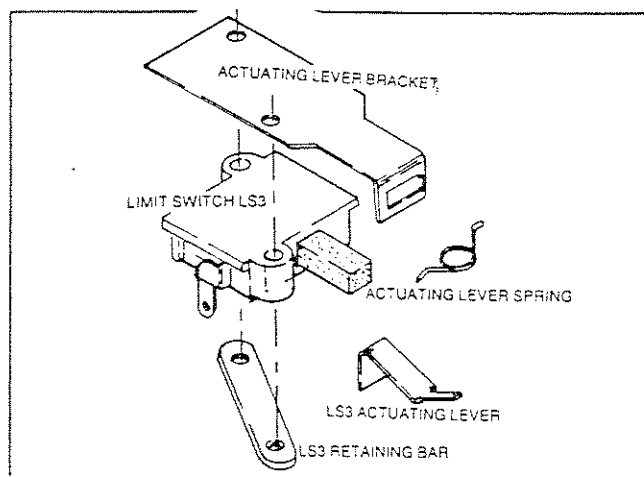

Figure 4. Limit Switch LS3 Actuating Parts
4. See Figure 4. Remove the inner cover and the limit switch retaining bar, as well as a limit switch actuating lever bracket, limit switch actuating lever and actuating lever spring.